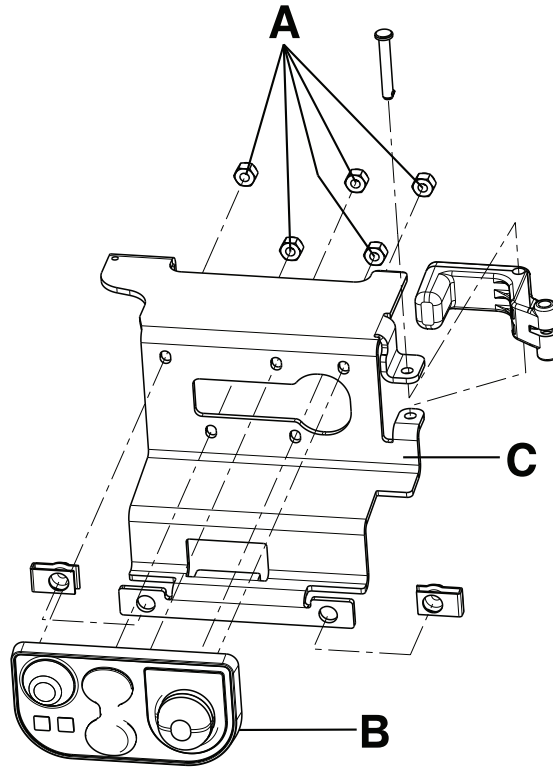

Figure 16 – Master On/Off switch and manual release button bracket assembly
- Using a 1/32" nut driver, remove the five Fiberlock hex nuts (A) that secure the master On/Off switch (B) to the manual release button bracket (C). Discard the master On/Off switch (Figure 16). Save the nuts.